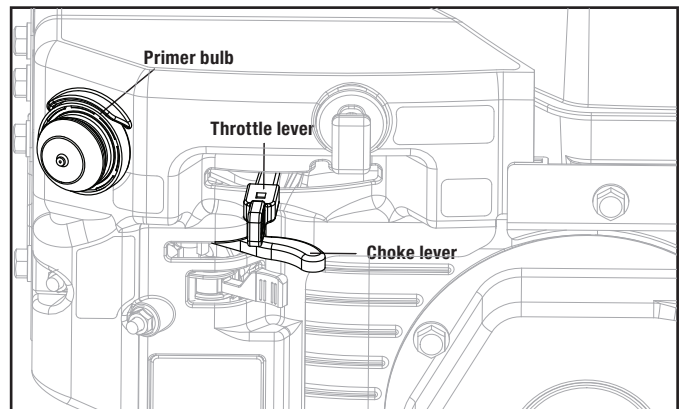

Figure 13B
- 3b. To start a warm engine, leave the choke lever to the run position (Fig. 13B).
4. Move the throttle lever to full speed to start the engine (Fig. 13B).
5. Use primer control depending on unit's temperature (Fig. 13B):
- When the engine starts, move the choke to run position (Fig. 13B).